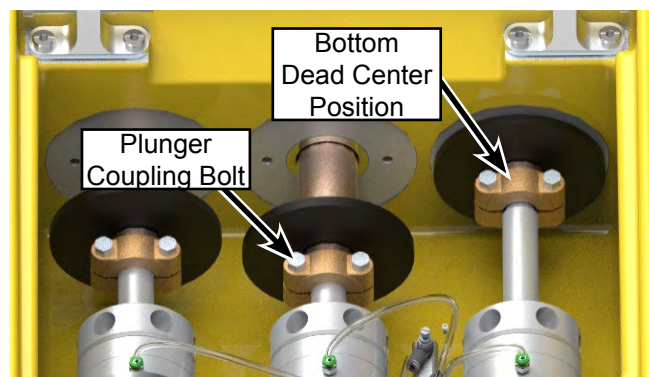

Figure 108: Remove Plunger Couplings.
4. Position the plunger to be serviced so that it is at bottom dead center (pony rod is fully retracted towards crankshaft) (Figure 108). This can be achieved by one of the following methods:
5. Remove the two capscrews that secure the plunger coupling (Figure 108) to the plunger and remove the coupling.